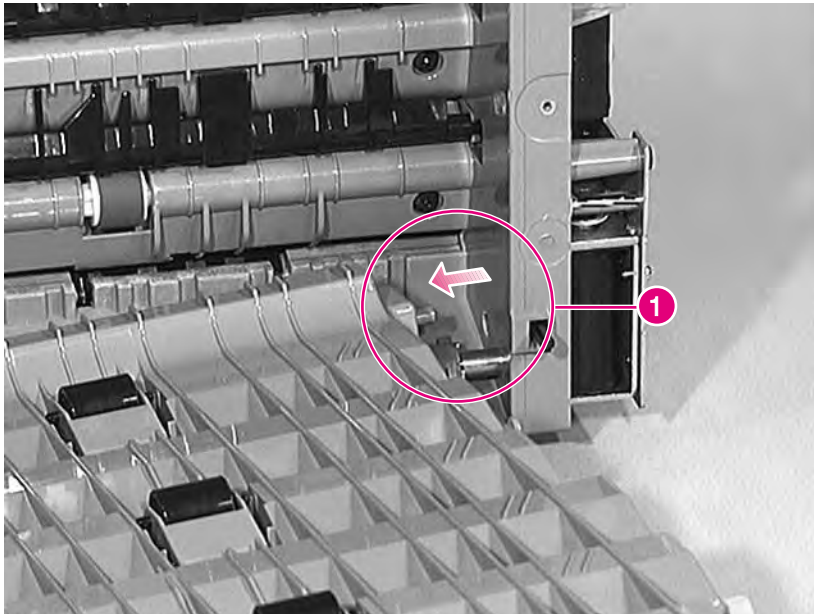

Figure 6-130 Right Door Assembly (Paper Path Cover) (5 of 5)
- 3 Release the plastic pin on the right end, and remove the paper path cover as shown in figure 6-130 (callout 1).